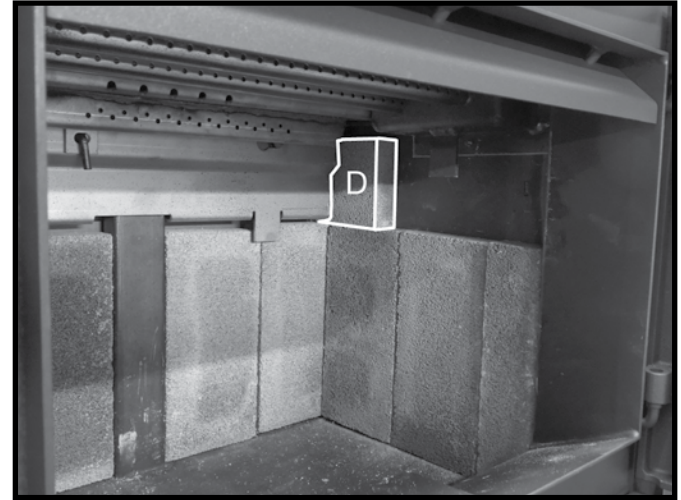

Figure 25: Small side wall firebrick in position.
6. Place a "D" firebrick on top of the previously placed "A" firebricks and slide this firebrick back toward the rear wall making sure that this firebrick tucks in behind the brick rail (Figure 25).